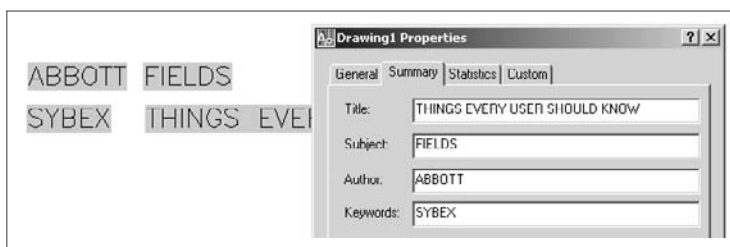

Figure 5.24
- You can create drawing properties (title, author, comments, keywords, or custom) from the File pull-down menu. Once you’ve defined custom properties, they’re listed by the names you gave them in the list of possible fields. Change the properties, and they change in the field location (either in a table or anywhere else). (See Figure 5.24.)